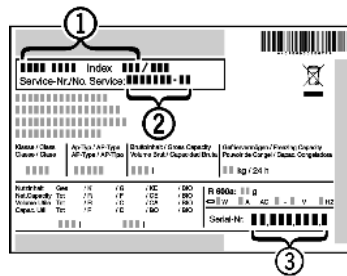

Fig. 32
- ▶ Read the appliance designation *Fig. 32 (1)*, service No. *Fig. 32 (2)* and serial No. *Fig. 32 (3)* off the type plate located inside the appliance on the left-hand side.
- ▶ Notify the customer service, specifying the fault, appliance designation *Fig. 32 (1)*, service No. *Fig. 32 (2)* and serial No. *Fig. 32 (3)*.